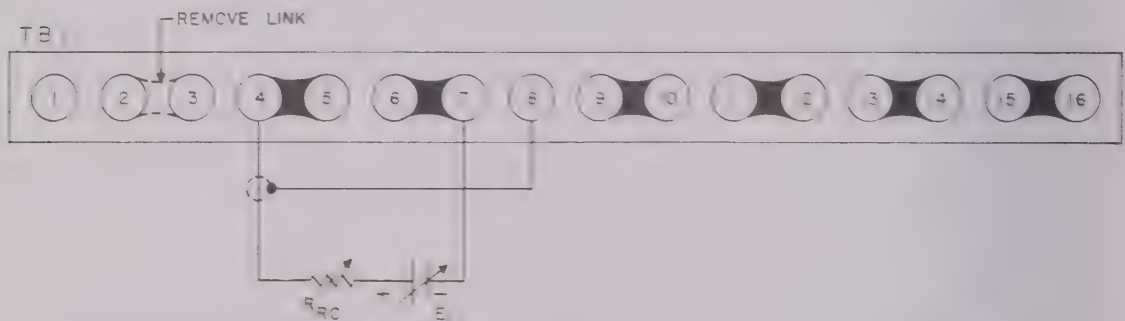

FIG. 3-8 CONNECTIONS FOR PROGRAMMING OUTPUT CURRENT WITH EXTERNAL VOLTAGE
- b) Connect the programming set-up as shown in Fig. 3-8. Turn both, "Voltage Control" and "Current Control" on the front panel of the power supply fully clockwise.